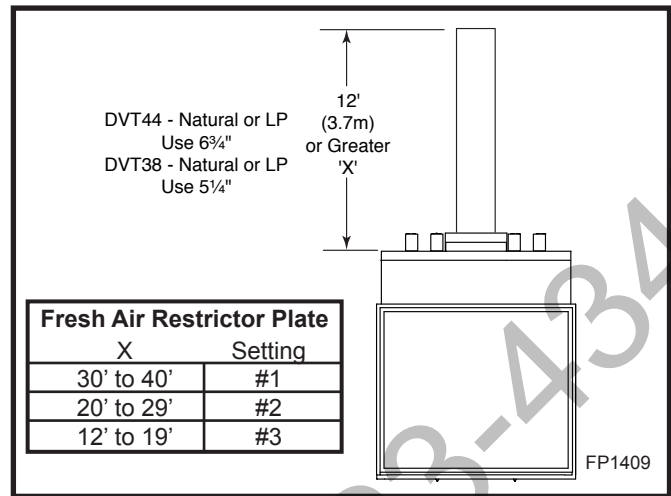
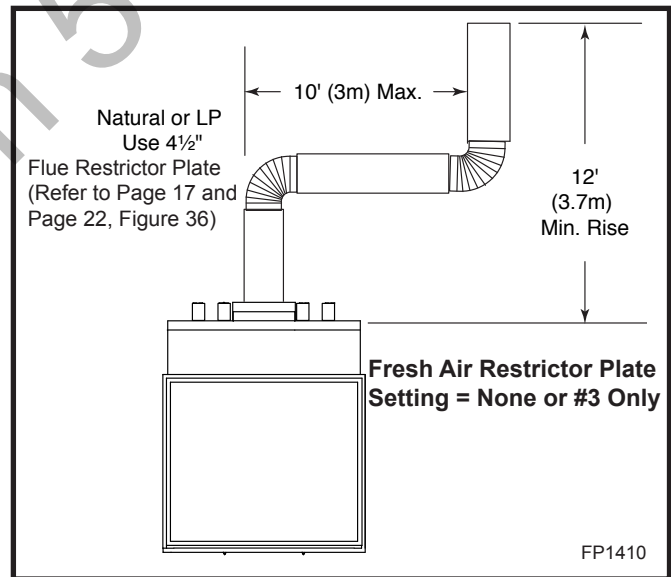
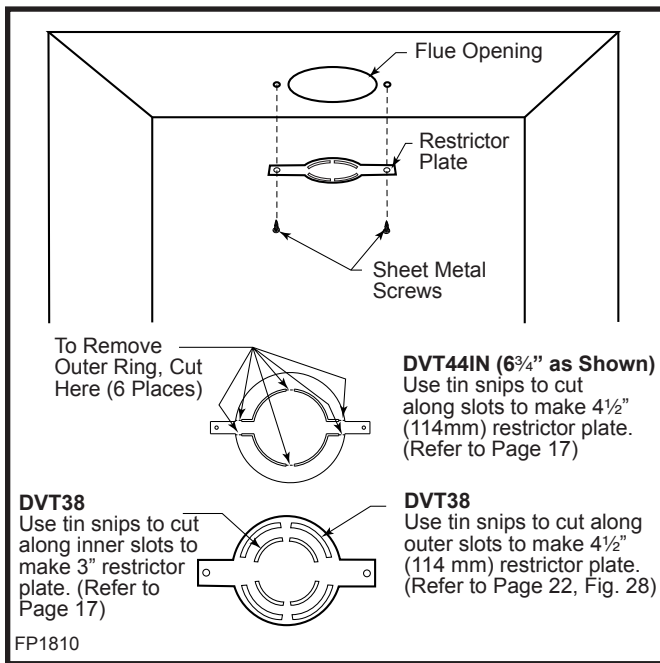

Fig. 27 Restrictor plate use in straight up installation.
Fig. 28 Restrictor plate use with horizontal offset.
Fig. 36 Restrictor plate location.
A vertical vent system must terminate no less than 12' (3.66 m) and no more than 40' (12 m) above the appliance flue collar. A 2' (610 mm) vertical section must be installed before any offset. A maximum of 20' (6.1 m) horizontal and three (3) 90° elbows may be installed with a minimum of 12' (3.66 m) vertical section above the flue collar of the unit. Refer to Page 22, Figure 27 for more information.
For vertically venting either propane or natural gas units, with vertical vent heights of 12' (3.7 m) or greater, (measured from the top of the flue collar) the restrictor plate as supplied with this unit should be used. (Fig. 27) Also, the fresh air restrictor plate could be adjusted according to your vent height. (Fig. 27) Refer to Pages 26 & 27, Figures 36 & 38 for restrictor plate installation and fresh air restrictor plate adjustment.
For vertical venting configurations that include a minimum vertical rise of 12' (3.7 m) and a maximum horizontal offset of 10' (3 m) the 4½" restrictor plate supplied with this unit should be used. The fresh air restrictor plate could be adjusted to the setting #3 (**DVT44IN Only**). (Fig. 28) Refer to Pages 26 & 27, Figures 36 & 38 for restrictor plate installation and fresh air restrictor plate adjustment.
Using the two (2) screws provided along with the restrictor plate shipped with the logset, fasten the restrictor plate to the firebox top through the front of the unit. (Fig. 36)